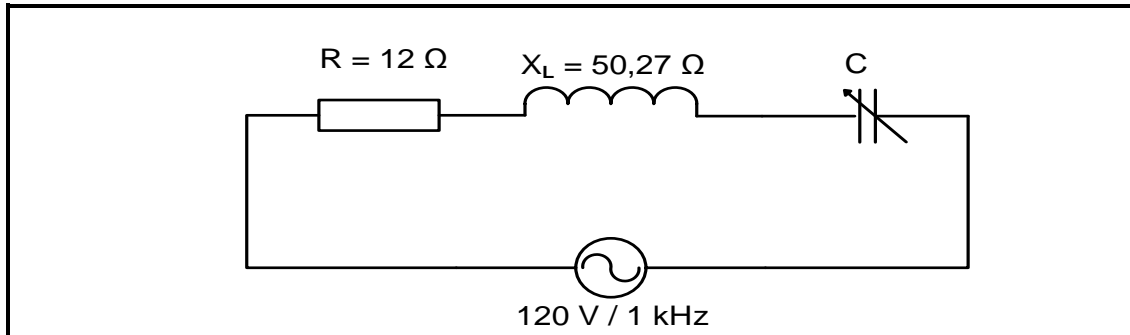

FIGURE 2.4: RLC SERIES CIRCUIT
- 2.4 FIGURE 2.4 below shows an RLC series circuit that consists of a $12\ \Omega$ resistor, an inductor and a variable capacitor connected across a $120\ \text{V}$ AC supply. The circuit resonates at $1\ \text{kHz}$. Answer the questions that follow.